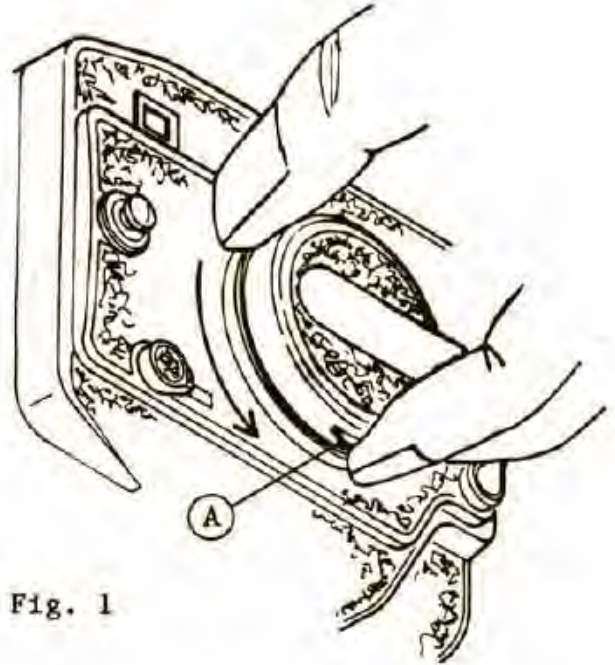

Fig. 1
- 2 Rotate it counterclockwise approximately 20° while simultaneously pushing in on the release lever (A), and it will detach as shown in Fig. 1.